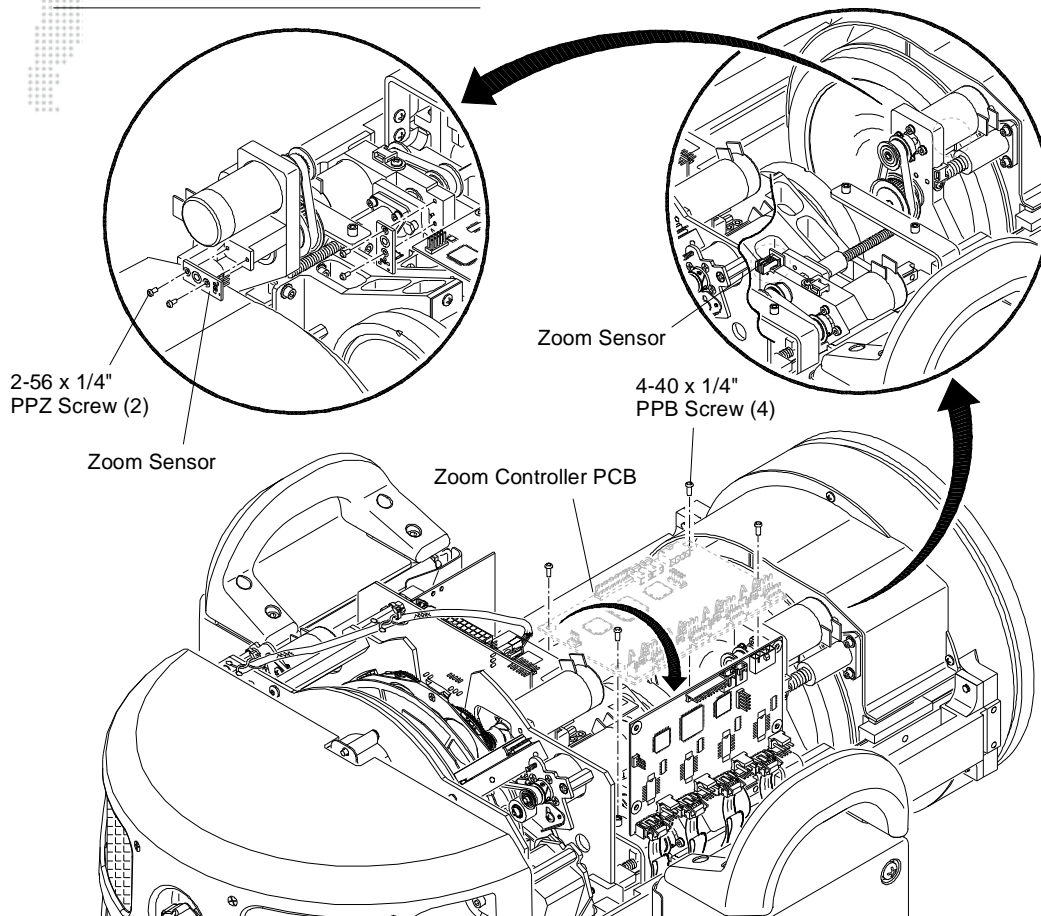

Figure 3-26: Removing Zoom Sensors 2 & 4
- At Zoom Controller PCB, remove four 4-40 x 1/4" PPB screws. (The PCB will still be connected by wiring.) Move Zoom Controller PCB to the side in order to access Zoom Sensor 2 as shown in **Figure 3-26**.
- At Zoom Sensor, disconnect cable from header (**Figure 3-26**).